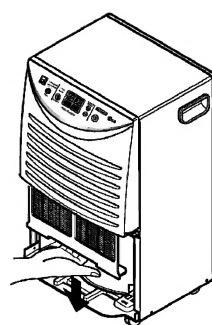

Figure 10
4. Pull out the air filter. (See Figure 10)